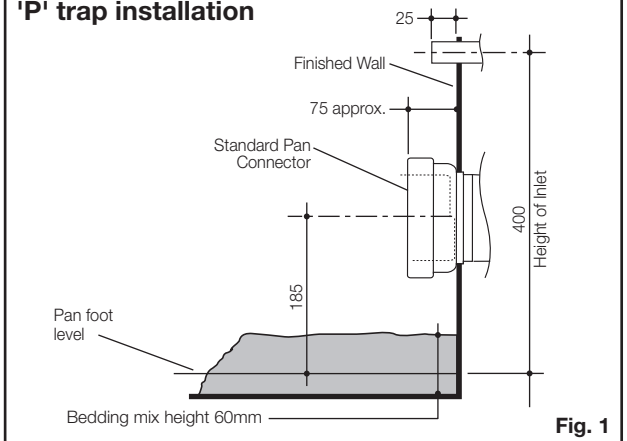

Fig. 1
It is essential for installation of the pan that the connector is accurately fixed into position, as detailed in Fig. 1.
- 4- Prepare bedding sand cement mixture 3:1 to depth of 60mm as detailed in Fig. 1. Note: Do not fill the foot of the pan with bedding mix or include lime or fast drying cement into the mix, these may cause cracking in the foot of the pan.